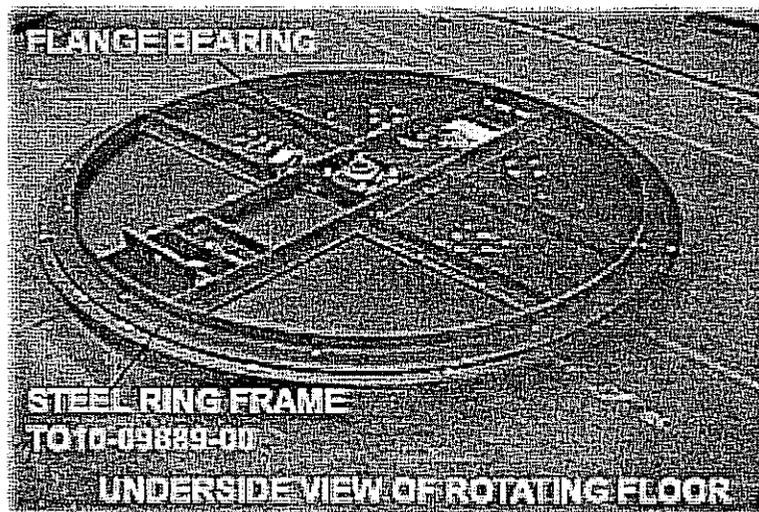

Figure 2
5. Next install the floor (See figure 2). The floor is a round wooden platform, with a large metal "rail" attached to it.